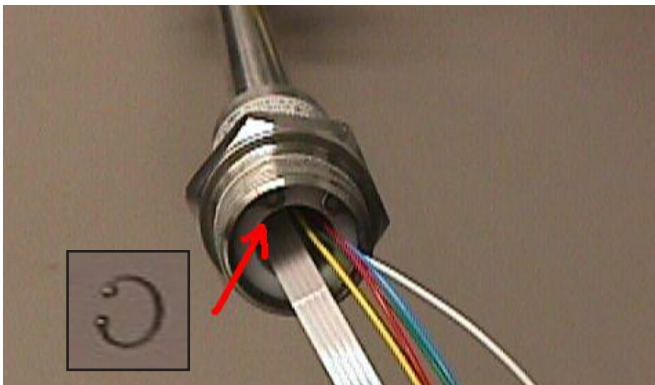

Figure 8. Removing the retaining clip from inside of the pipe assembly
Damage to the SE and DT can occur when removing the plastic base cartridge and heat shrink tubing from the SE (Figure 8).
3. Using e-clip or needle nose pliers, remove the retaining clip from the inside of the pipe (Figure 8).